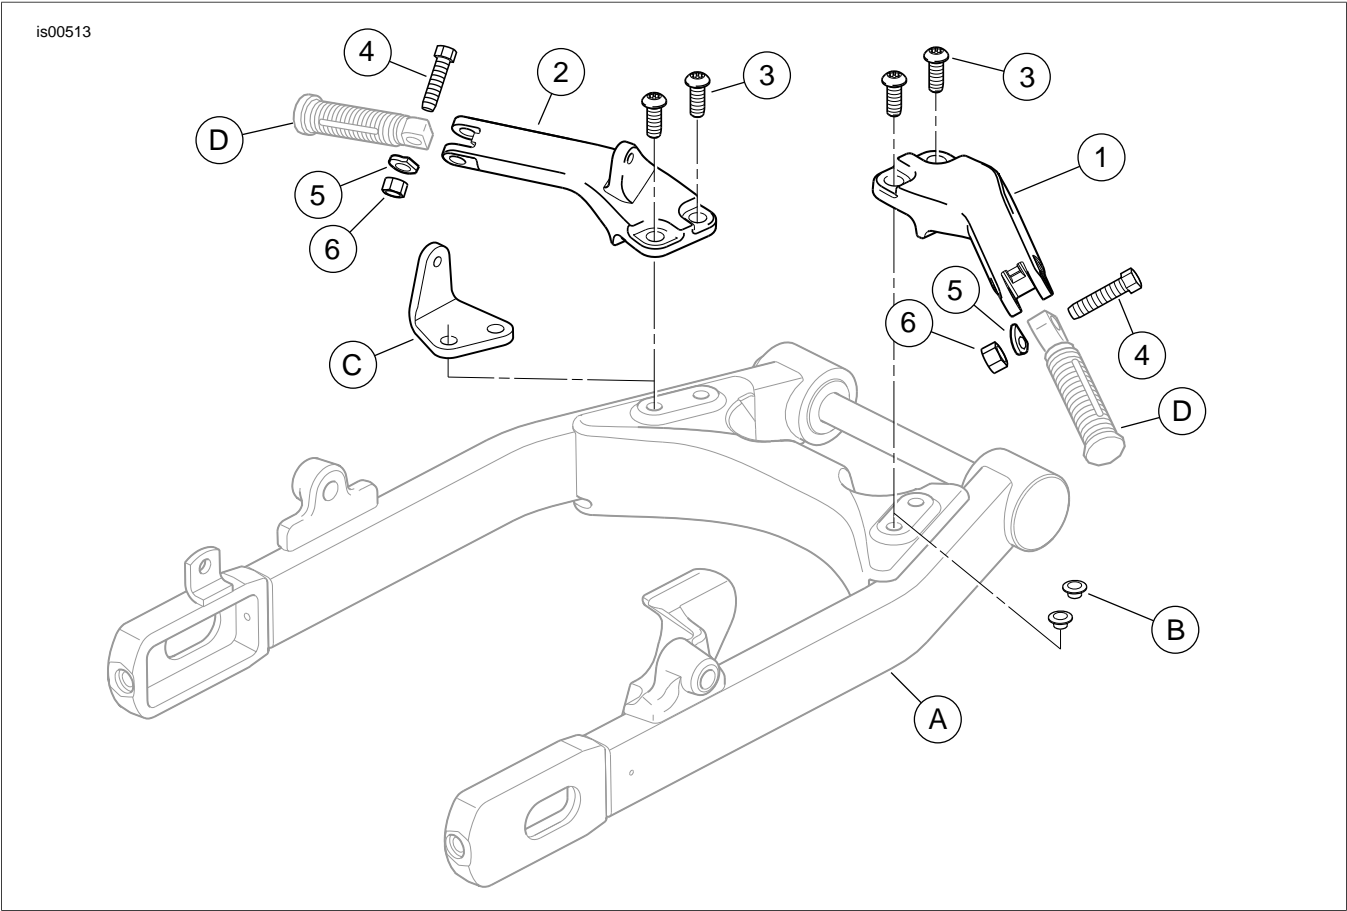

Figure 5. Service Parts, Passenger Footpeg Mounting Kit
See Figure 5 and Table 1.
- Remove the two hex head cap screws (4) that attach the belt guard mounting bracket (5) to the rear fork. The bracket and screws can be discarded.
- See Figure 5. Obtain the left-side footpeg support (2) and two self-tapping screws (3) from the kit. Install the support to the mounting location as shown, and torque the screws to 25-35 ft-lbs (34-47 Nm).
- See Figure 5. Install a passenger footpeg (purchased separately) on each footpeg support as shown, using a hex head cap screw (4), spring washer (5) and lock nut (6) from the kit.